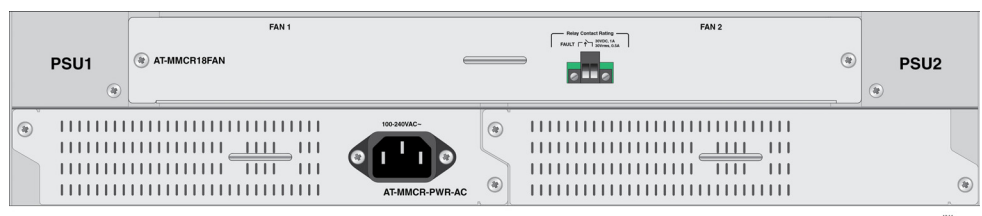
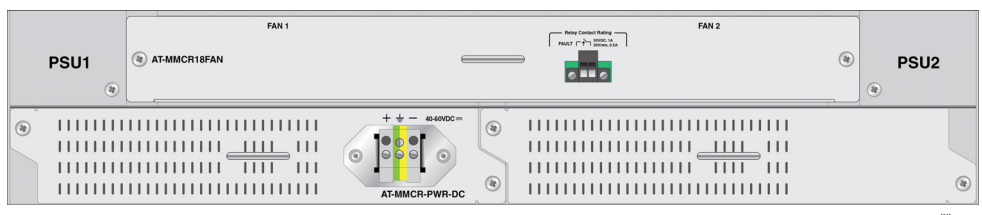

Figure 8. Inserting the AC Power Supply Unit into Slot A
Figure 9. Inserting the DC Power Supply Unit into Slot A
3. Insert the power supply unit into the power supply slot A. See Figure 8 for the AC power supply unit and Figure 9 on page 25 for the DC power supply unit.